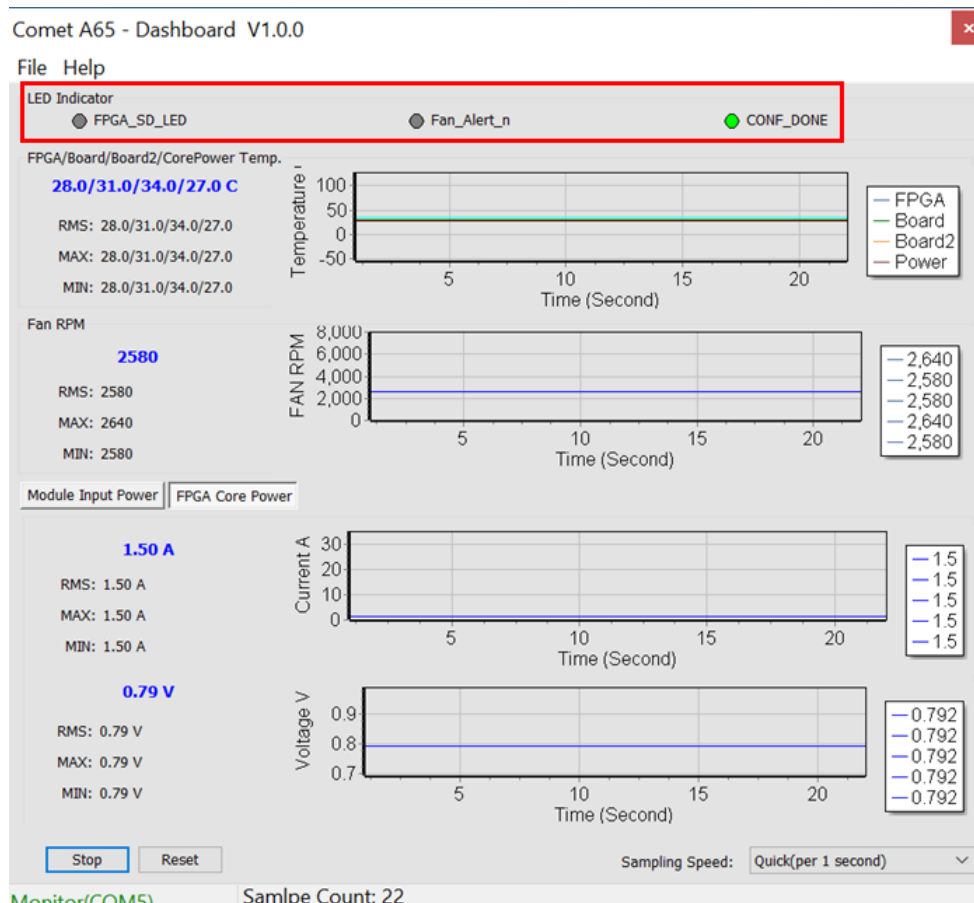

Figure 3-8 FPGA Status section
- **CONF_DONE:** As shown in Figure 3-8, once you press the “Start” button, it will show the status LED number on the Comet A65 SOM Evaluation Kit. Note that “CONF_DONE” stands for FPGA configure done status. There is no LED on Comet A65 SOM Evaluation Kit to display FPGA configure status. When this status is shown in green on the GUI, it means that FPGA configuration has been completed.